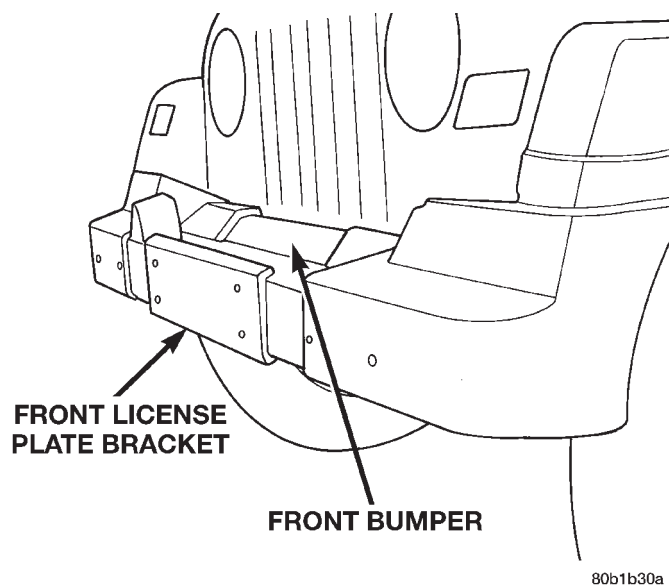

Fig. 3 Front License Plate Bracket
- (1) Remove the front license plate bracket attaching bolts and bracket (Fig. 3).